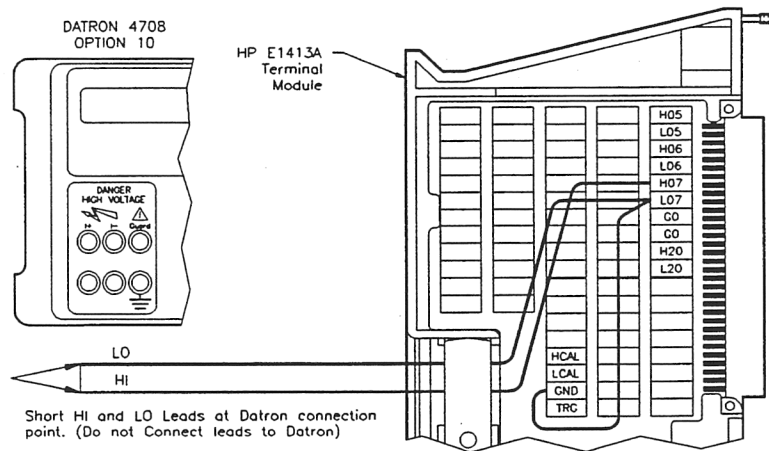

Figure 2-7. Channel Tare/Calibration Connections
- For channel tare/calibration connections, see Figure 2-7
- [a] Connect wiring to terminal module (see Figure 2-7)